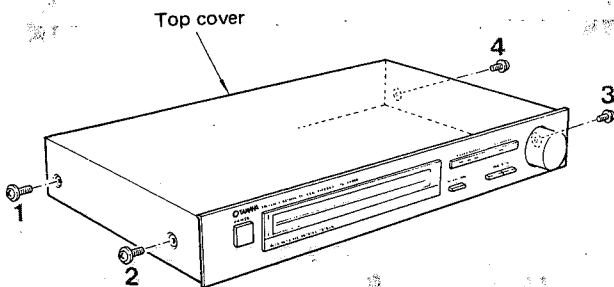

Fig. 1
- ② TUNER CIRCUIT BOARD
- ③ AM LOOP ANTENNA
- ④ RF FRONT END
- ⑤ POWER SWITCH
- ⑥ DIAL POINTER UNIT
- ⑦ MPX IC ( $\mu$ PC1235C : iG05420)
Remove screws ① through ④ in fig. 1 and remove the top cover.